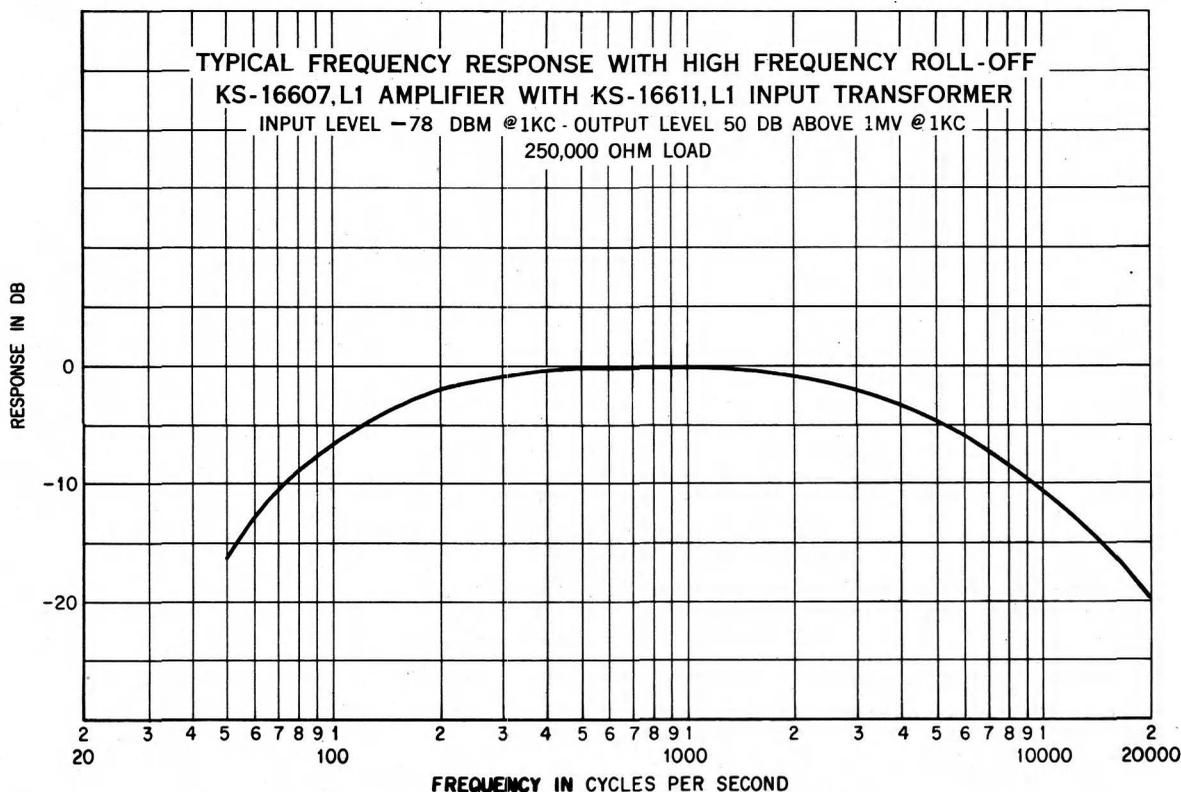

Fig. 4 - Frequency Response with High-end Roll-off
2.04 The frequency response with high-end roll-off of the amplifier is shown in Fig. 4. The connection for this condition is made by strapping the HI FREQ terminals on TB4 of the basic amplifiers. The conditions under which the data were obtained are also indicated.